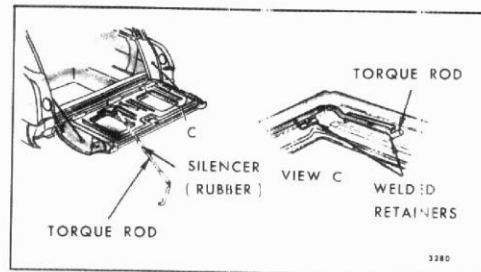

Fig. 9-60-Tail Gate Torque Rod Assembly
3. Disengage torque rod from tail gate inner panel retainer (See Fig. 9-60).